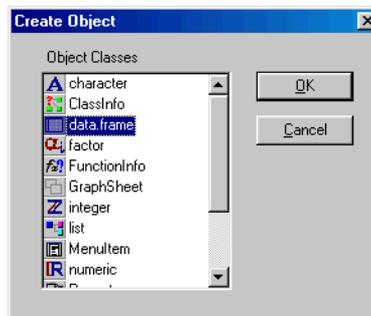

Figure 7.15: *The Create Object dialog.*
1. Right-click the folder's icon and select **Insert** from the shortcut menu. The **Create Object** dialog opens, as shown in Figure 7.15.